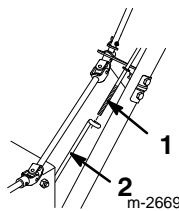

Figure 3
- Position the left handle and insert the traction rod through the loop in the lower traction rod (Fig. 3).